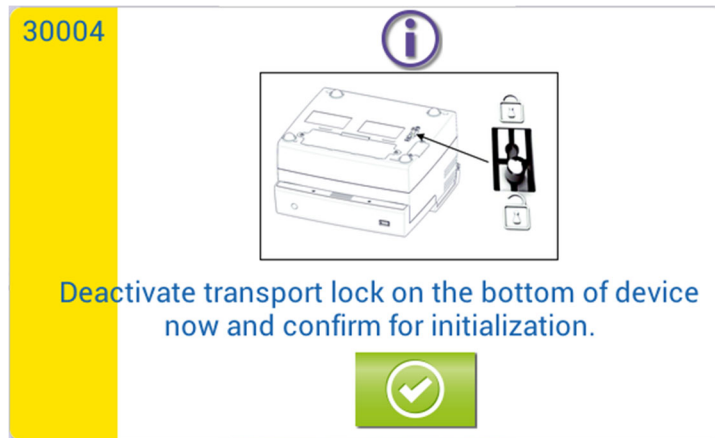

Figure 6
- When the message to unlock the transport lock is displayed (Figure 6) place Solana on a stable surface. Facing the front of the instrument, tilt the instrument to stand on its left side.